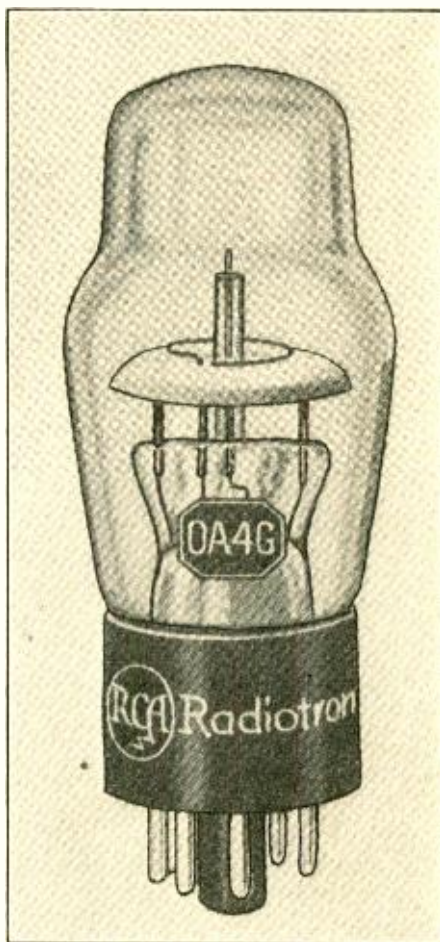

FIG. 1
THE 0A4-G is a cold-cathode glow-discharge tube of the starter-anode type designed for use primarily as a relay tube in carrier-actuated equipment. The 0A4-G consists of a cathode (K), starter-anode (P_1), and anode (P_2) arranged as shown in the photograph of Fig. 1; socket connections and symbolic representation of the tube are shown in Fig. 2.